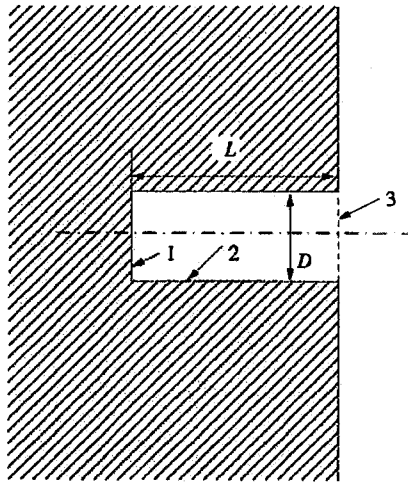

Fig. 2
(c) Figure 2 shows the cross section of a black body simulator made using a small circular cylindrical hole in a large metal block. The length L is 2 cm and the diameter D is 1 cm. The plate is held at a constant temperature of 1000 K in a black enclosure at 300 K. The metal surfaces within the hole should be considered as grey, diffuse and having a total emissivity of 0.9. The radiosity of the internal surface varies along the hole. An estimate of the effective emissivity of the hole can be obtained by dividing the internal surface into two sections, the base 1 and the side wall 2 as indicated in Fig. 2.
- (i) For each of the three surfaces marked as 1, 2 and 3 in Fig. 2, calculate the view factors F_{ij} and the black body energy emitted E_{bi} . The view factor between a pair of parallel circular discs at a distance to diameter ratio of 2 can be taken as 0.6. The Stefan-Boltzmann constant is $5.67 \times 10^{-8} \text{ W m}^{-2} \text{ K}^{-4}$. [30%]